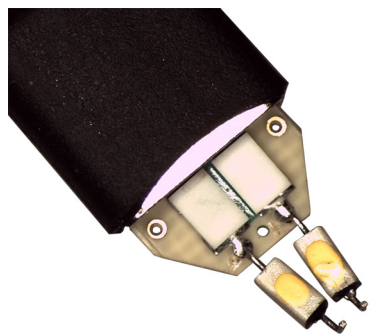

Figure 101 N2836A ZIF Probe Head
- 2 Prepare the MX0109A / N2836A solder-in probe head for connection to the PV fixture as shown in **Figure 101**. Shape the leads as shown with the resistors angled until they almost touch.